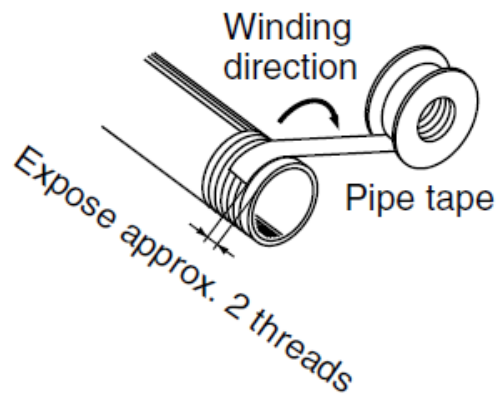

Fig.8 Wrapping of pipe tape
- When screwing piping or fittings into ports, ensure that chips from the pipe threads or sealing material do not enter the piping. Also, if pipe tape is used, as in Fig.8, leave 1.5 to 2 thread ridges exposed at the end of the threads.